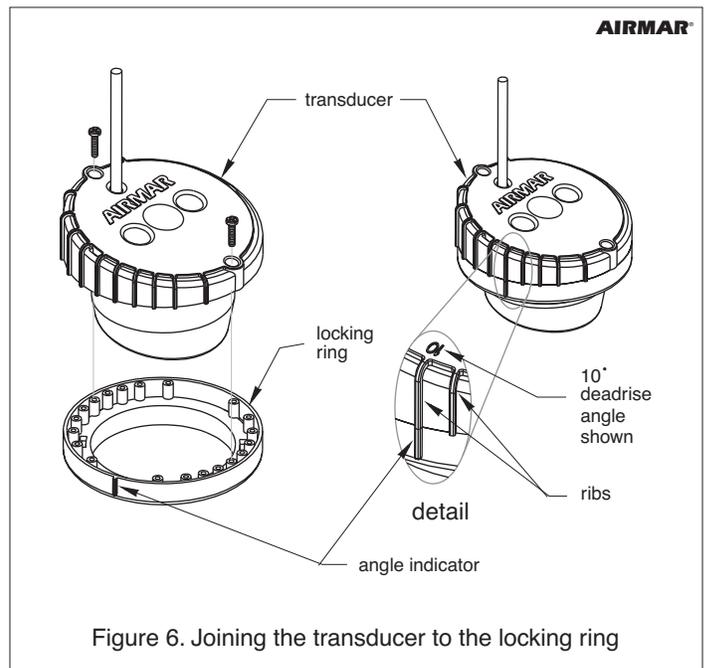

Figure 6. Joining the transducer to the locking ring
7. Slide the transducer into the locking ring. Turn the housing until the rib that most closely corresponds to the deadrise angle of your hull is aligned with the angle indicator on the locking ring. To secure the housing to the locking ring, insert the two screws (see Figure 6). **Do not over-tighten the screws.**
10. Lock the transducer assembly into the base by inserting the keys on the locking ring in the notches in the base. Press down and rotate clockwise until seated (see Figure 6).